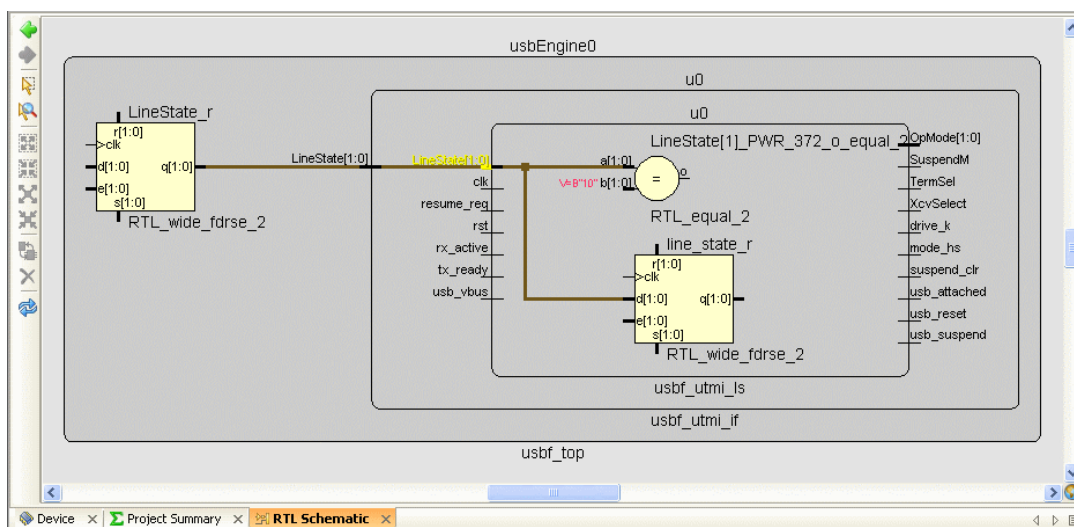

Figure 19: Expanding Logic in the RTL Schematic View
- 3-4-5.** Outside the `u0` module double-click on the **LineState** pin to expand the logic (Figure 19).